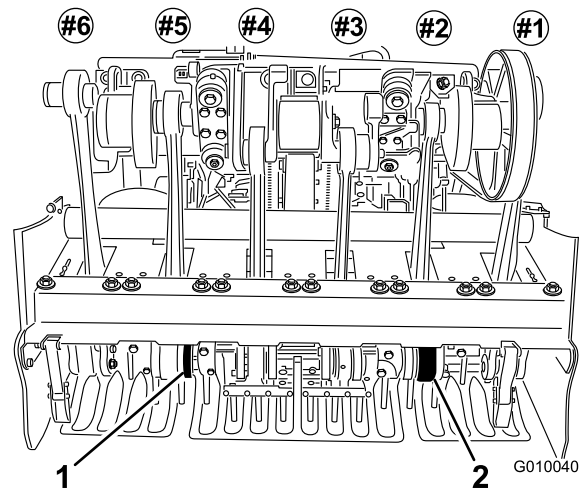

Figure 25
6. Install tines into the #2 and #5 tine holders (Figure 25) Tighten the bolts.